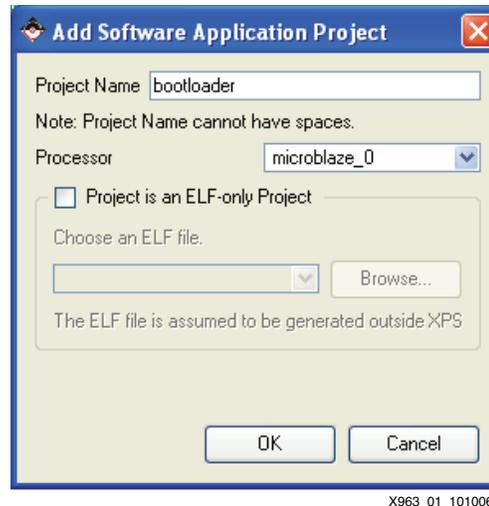

Figure 1: Add Software Application Project Dialog Box
2. Select **Software** → **Add Software Application Project...** in XPS. This will open the Add Software Application Project dialog box, which is shown in Figure 1.